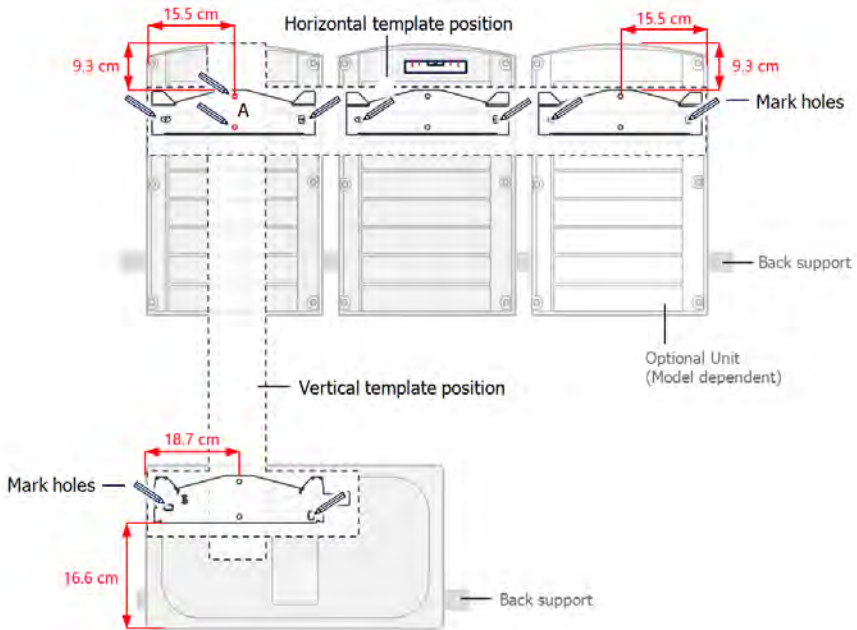

Figure 13: Marking the drilling holes locations
When installing the inverter on a stud framing or a rail, avoid wobbly installation by adding back support at the lower back side of the Synergy Manager and Synergy Units (See *Figure 13*)
3. Level the mounting template horizontally against the wall and mark the drilling hole locations for the bracket of the Synergy Units (see pencil icons in *Figure 13*).